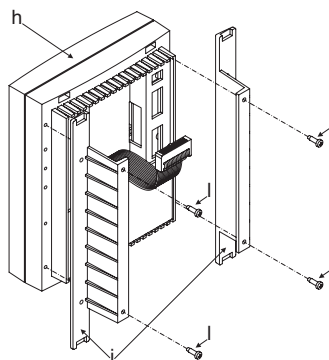

Fig.5
- *Arrange the videophone "h" fixing to it the two brackets "i" using the 4 screws "l" as shown in figure 5;*